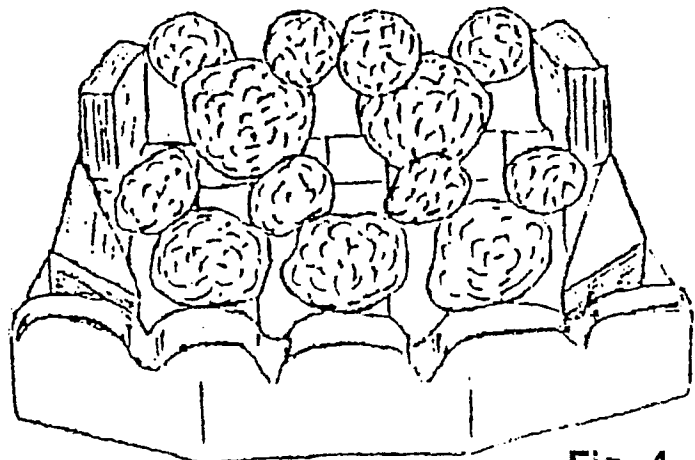

Fig. 4
3. Place the 8 small between the gaps formed in the previous coal layout, Fig. 4.